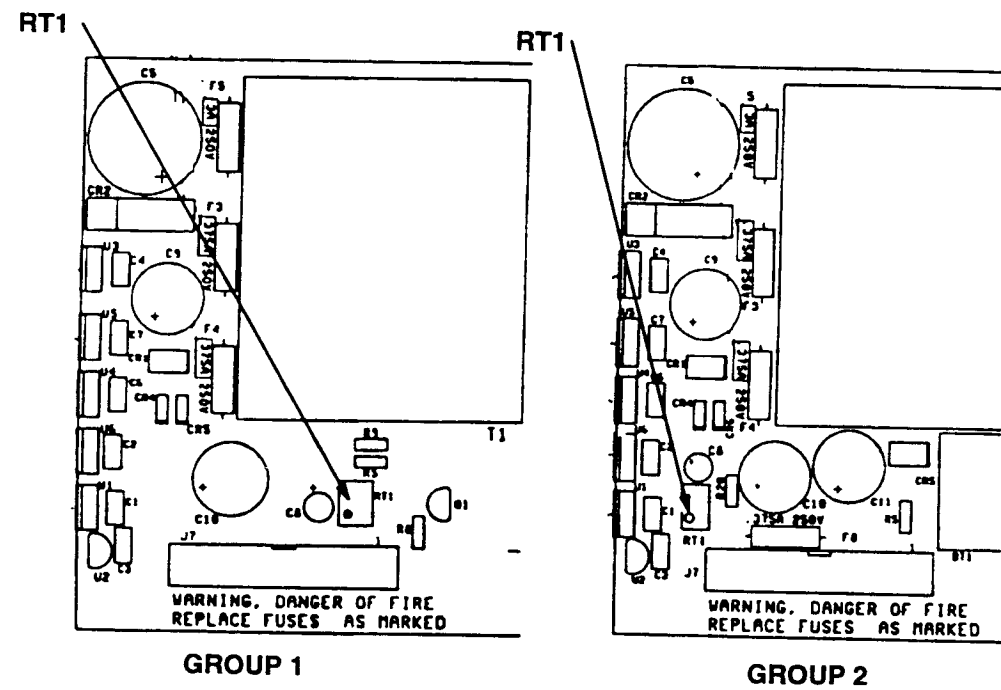

FIGURE 5.1 POWER SUPPLY LOCATION OF TEST POINTS AND ADJUSTMENTS
5.3.2 POWER SUPPLY (REFER TO FIGURES 5.1 AND 5.2 FOR LOCATION OF TEST POINTS AND ADJUSTMENTS).